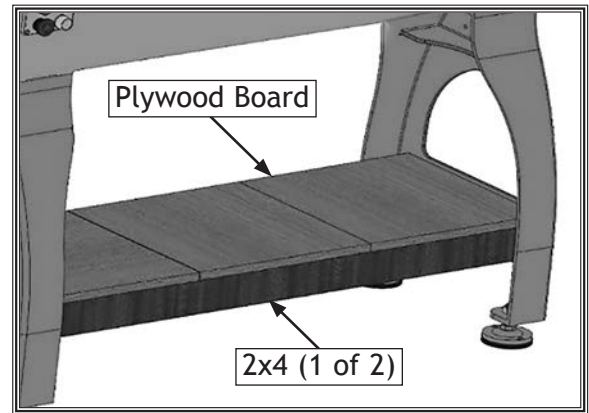

Figure 16. Boards installed and secured in shelving option two.
1. Set two 2x4 (or 2x6) boards on edge in lower brackets of leg castings (see **Figure 16**).
2. Cut plywood board (see **Figure 16**) to fit flush with outside edges of 2x4s and secure with wood screws.